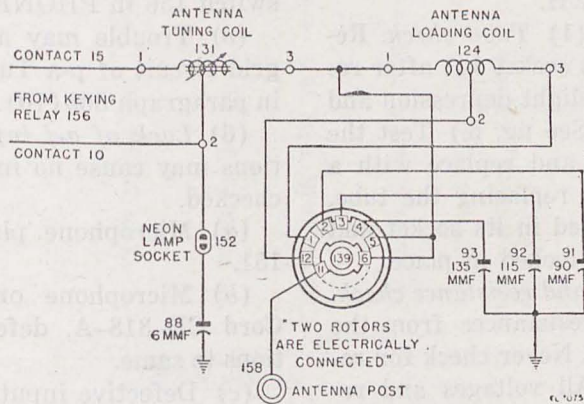

Figure 42. Antenna tuning network stage schematic of transmitter of Radio Receiver and Transmitter BC-1306.
a. STAGE DATA. (1) Antenna-tuning network stage schematic, figure 42.
(2) Parts identification illustrations.
Table XXI. Parts data, antenna network (transmitter) (fig. 42).